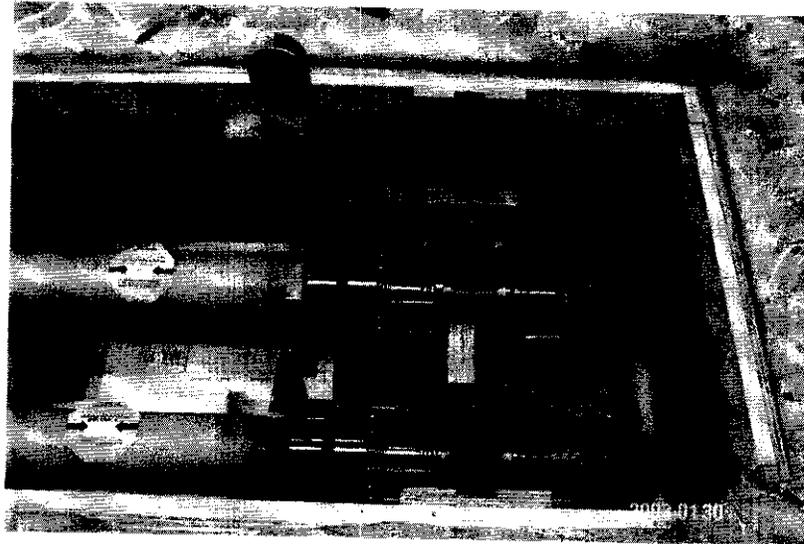

**Figure 1.3** 2 – Upper Insulator, 3 – Lower Insulator, 6 – PEEK Seal
- 1.3 Position the upper insulator in each chimney according to Figure 1.3.
- 1.4 Position the PEEK seal in each chimney according to Figure 1.3.
- 1.5 Position the lower insulator in each chimney according to Figure 1.3.